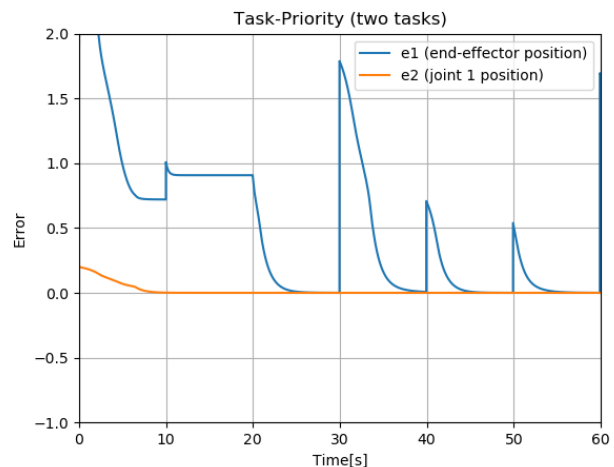

Fig. 7: Evolution of control error for Joint 1 Priority
- The Fig.7: represents the **error evolution** for two tasks: